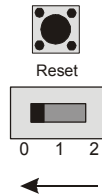

Figure 4-4
- ✓ Turn off the power as shown in Figure 4-4.